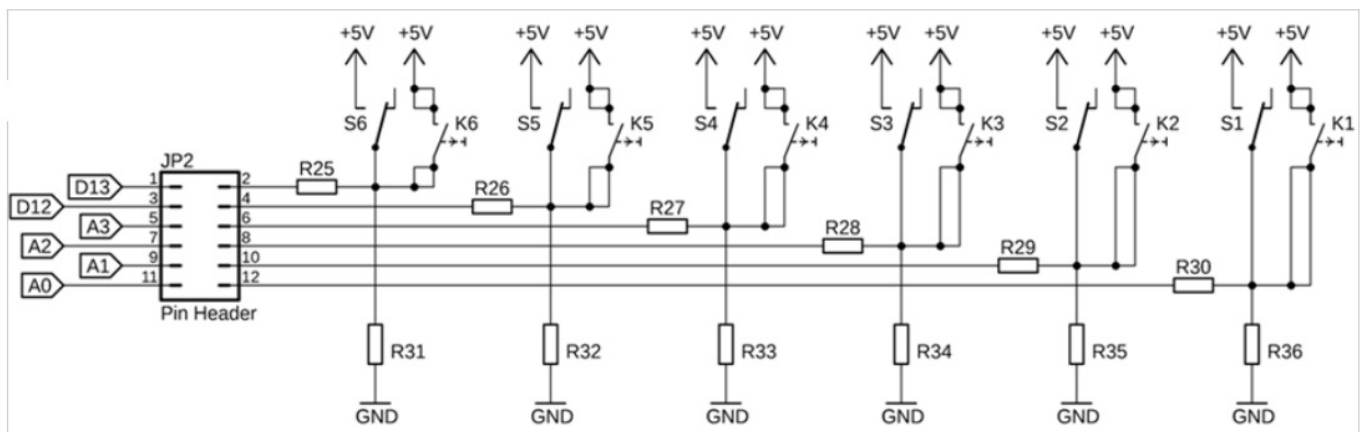

Figure 7: The wiring of the slide / pushbutton switches S1 ... S6 / K1 ... K6
The MCCAB Training Board provides the user with six pushbuttons and six-slide switches for his exercises (arrows (20) and (19) in Figure 1). Figure 7 shows their wiring. To give the user the option of applying either a permanent or a pulse signal to one of the inputs of the microcontroller module M1, one-slide switch and one pushbutton switch are connected in parallel.
Each pin of the pin header JP2 can be connected to its assigned input A0 ... A3, D12 or D13 of the Arduino NANO microcontroller module via a jumper. The assignment is shown in Figure 7.